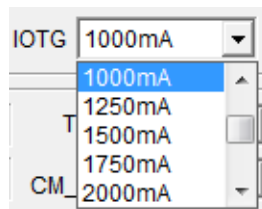

Figure 20: OTG Output Current Limit Configuration
6. Set the OTG output current limit (see Figure 20).